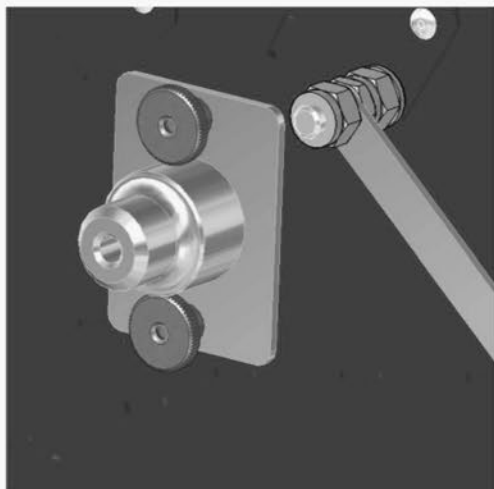
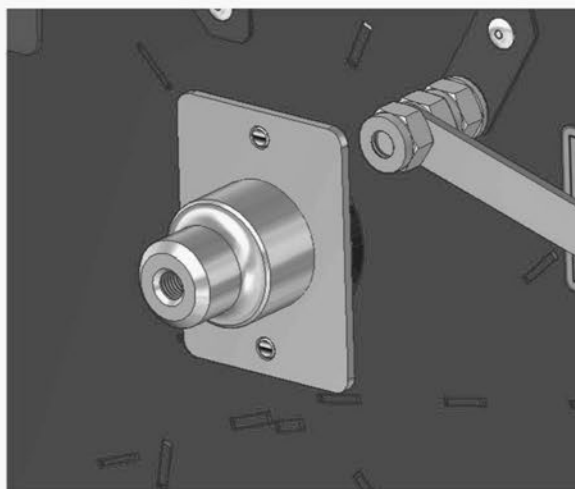

Figure 24
Figure 25
- Unscrew the locking nuts from the side cover plate for the seeding shaft (Figure 24 and Figure 25).